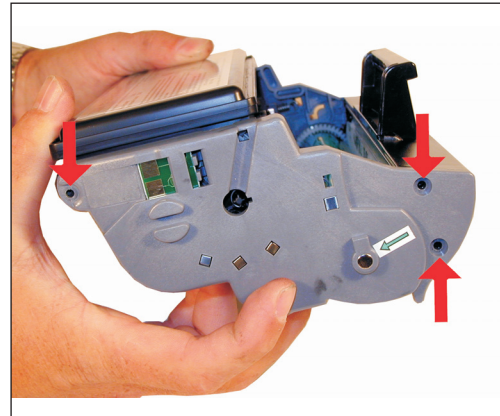

Figure 33
28) Install the three screws on the end cap. See Figure 33